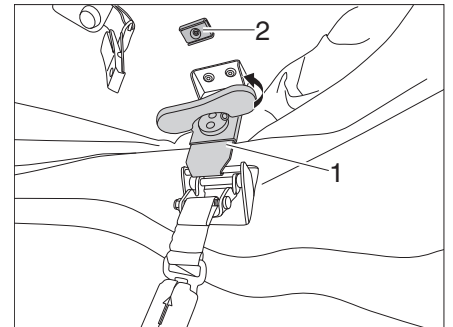
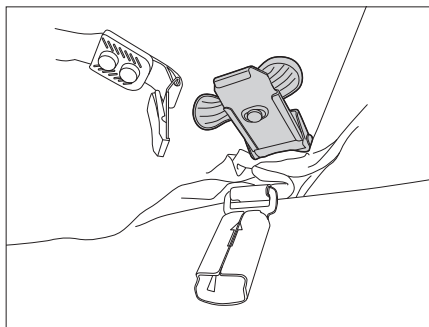

Fig. 49 Releasing the locking mechanisms
Fig. 50 Fastening the locking mechanism
- Set up the twist grips of the left- and right-hand locking mechanism (Fig. 49,1) and turn counter-clockwise until the locking mechanisms are loosened.
- Fold the twist grip further downward and attach the locking mechanism to the magnet (Fig. 49,2) (Fig. 50).